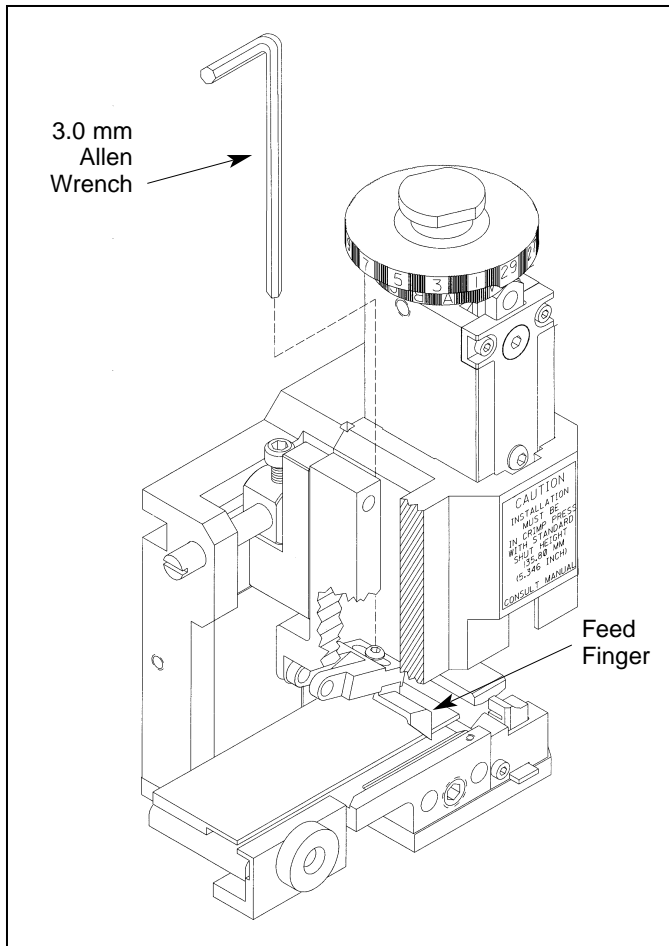

Figure 2.3.3.5 Feed Finger Positioning
2.3.3.5 Loosen the M4 button head cap screw located on the feed arm and slide the feed finger to the desired position. (Refer to Fig. 2.3.3.5 Feed Finger Positioning)